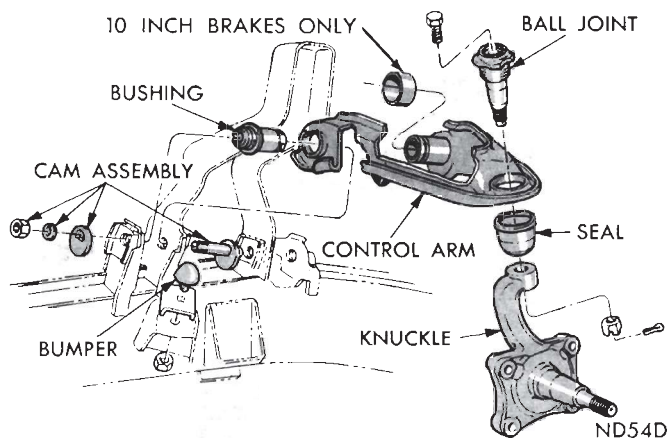

Fig. 20—Upper Control Arm (Valiant-Barracuda)
UPPER CONTROL ARM (Figs. 20, 21 and 22)
(4) Spread tool enough to place upper stud under a load, then strike steering knuckle sharply with a hammer to loosen stud. **Do not attempt to force stud out of steering knuckle with tool alone.**
(5) On Fury models, remove upper ball joint nut and remove stud from steering knuckle using Tool C-3964.
(6) Remove nuts, lockwashers, cams and cam bolts attaching upper control arm and bushings (Figs. 20, 21, 22) to support brackets. Lift control arm up and away from support.
(1) Slide control arm into position and install cam bolts, cams, washers and nuts (Figs. 20, 21 and 22). Tighten nuts in preparation for final adjustments.
(2) Slide upper ball joint stud into position in steering knuckle and install nut. Tighten nut 100 foot-pounds, (Valiant 55 foot-pounds). Install cotter pin and lubricate ball joint. Tighten lower stud nut 100 foot-pounds (Fury 115 foot-pounds).